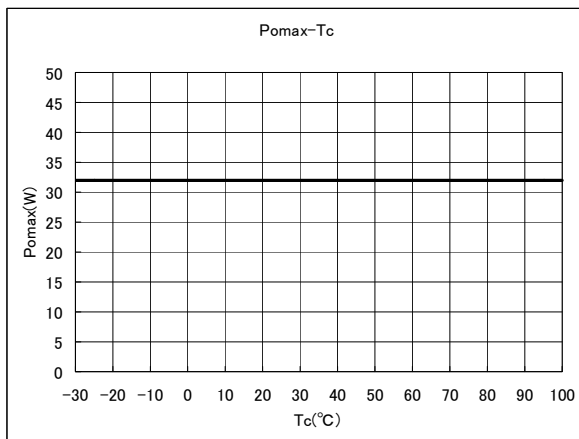

Figure 1 Pomax-Tc
Note 2: The output power rating satisfies the range shown in Figures 1 and 2 according to the operating case temperature. Ensure that the device should be operated within the specified operating range. The figures below indicate the output power obtained 2 seconds after P_o is generated.
*When the device is used at T_c = 100°C, the output power rating is 32 W as shown in Figure 1. When the power dissipation at T_c = 100°C exceeds the rating shown in Figure 2, the output derating is required to limit the dissipation within the specified range.
Note 5: The output power is intended to follow the rating provided in Figure 1 in Note 2.